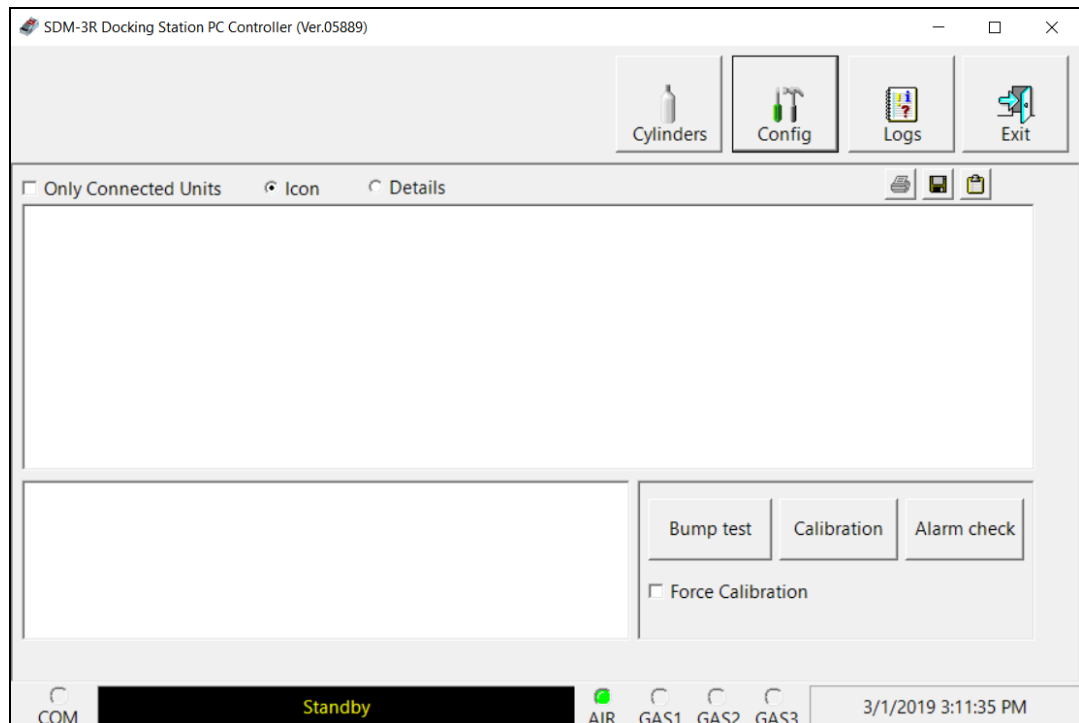

Figure 37: Main Program Window
3. Click **Start** on the Windows Icon Tray, then select **Programs/SDM-3R**. You may also double click the shortcut created on your desktop. The PC Program is launched and the main program window appears, as shown in Figure 37.